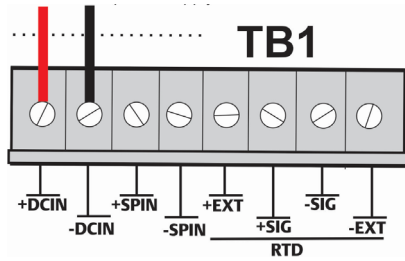

Figure 8. Wiring to DC Power Supply (with Optional I/O)
- Insert each bare wire end into its appropriate connector and secure the wire (see Figures 8 and 9).